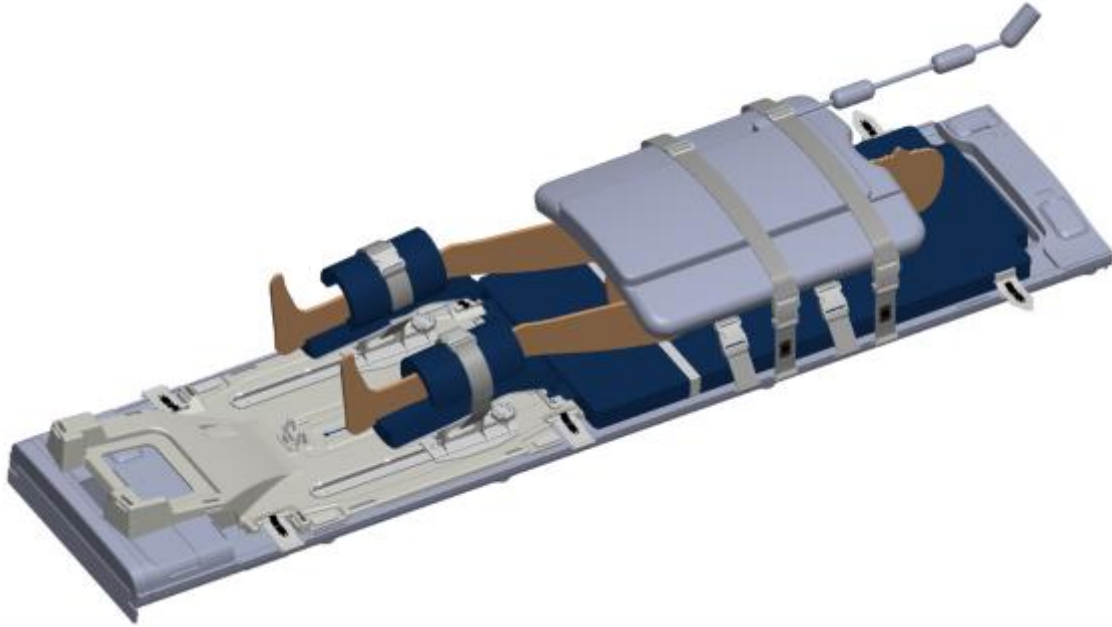

Figure 26: Placement of the anterior imaging coil
2. MRI Technologist: Strap the anterior imaging coil over the patient's pelvis and arms. The coil should cover the prostate, without interfering with the travel of the Positioning System (*Figure 26*).